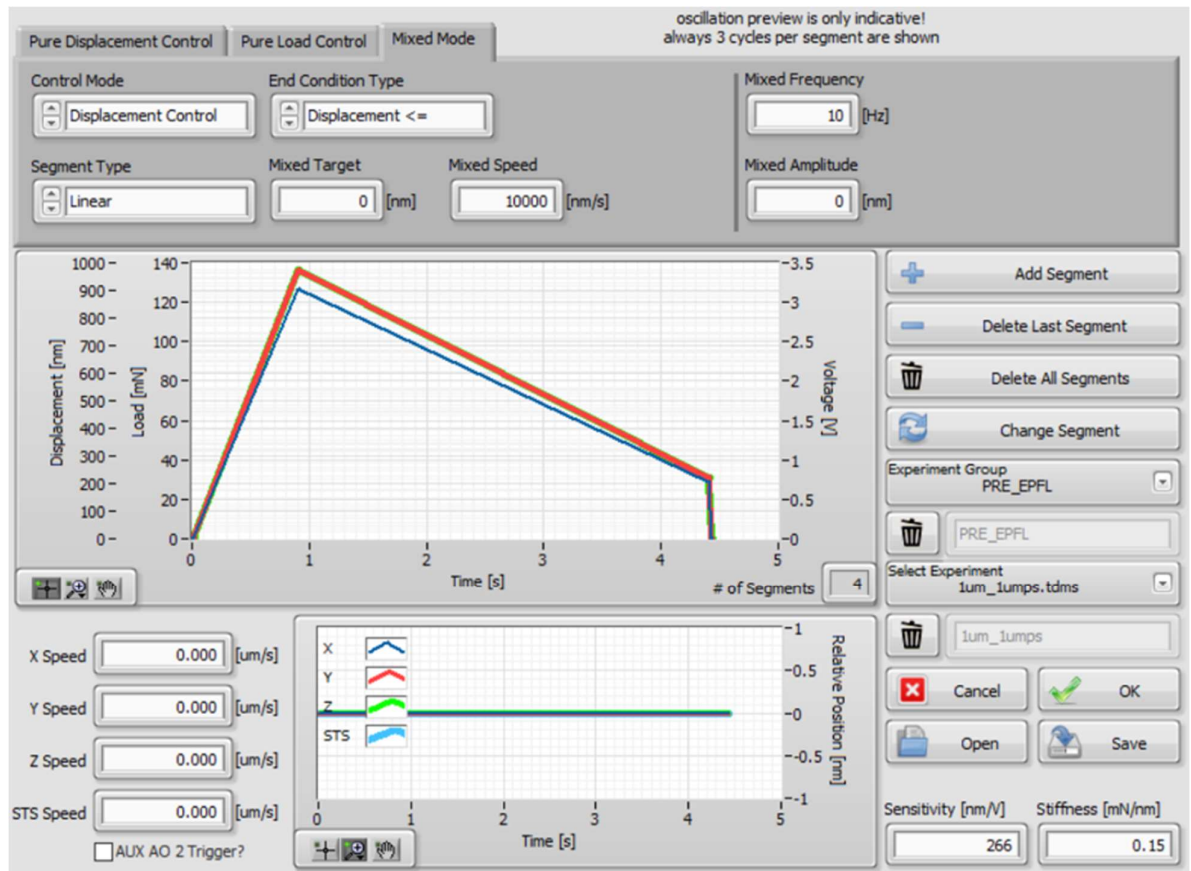

Fig. 10: Diffusion Bonded Joint sample mounted under the ASA in the microscope position
- 2) Place Diffusion Bonded Joint sample under the ASA indentation head as shown in Fig. 10. Align the sample as shown in picture below, taking care to align the interfaces along the X axis.